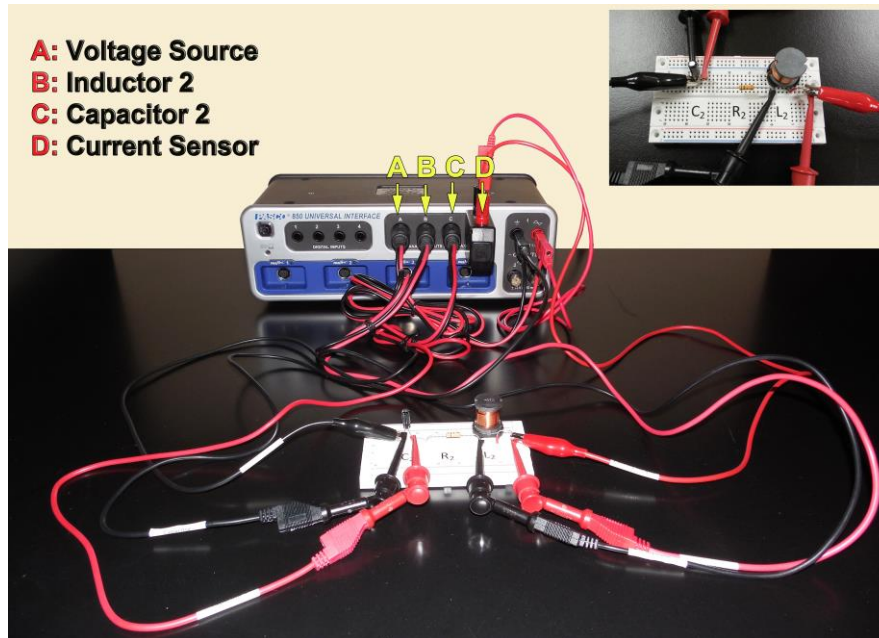

Figure 8
1. Connect the RLC Circuit together using  $R_2$ ,  $L_2$ ,  $C_2$  and the interface as in **Figure 8**. The AC source is from Output 1 of the interface. The current sensor, attached to Input D on the interface, is wired in series from the positive side of the source to the inductor  $L_2$ . The voltage sensor, attached to Input C on the interface, is connected across the capacitor  $C_2$ . The voltage sensor, attached to Input B on the interface, is connected across the inductor  $L_2$ . The voltage sensor, attached to Input A on the interface, is connected across the source from Output 1.